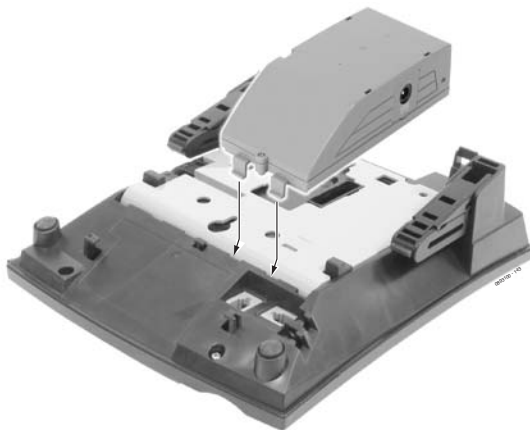

Figure 4-38: POSITIONING THE ADAPTER
**ADA2 Adapter (Figure 4-31 - Figure 4-38)**